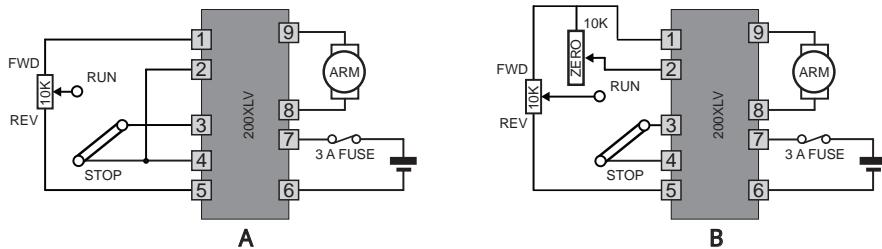

Figure 7 BASIC CONNECTION - Forward/stop/reverse by centre zero
In Figure 7 A, adjust the 10K potentiometer for ± 5 V full-scale.
In Figure 7 B, adjust the SPEED potentiometer for ± 5 V full-scale.
In Figure 7 B, the external source common is not at the same potential as the supply 0 V.
1. Therefore, this commissioning procedure requires the drive set-up shown in "Figure 7 BASIC CONNECTION - Forward/stop/reverse by centre zero" on page 8.